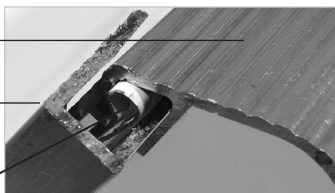

FIG. 6
**NOTE:** Only the outside edge of the Front Gutter and the curled edge of the slat is inserted into the Edge Rafter (FIG. 6).